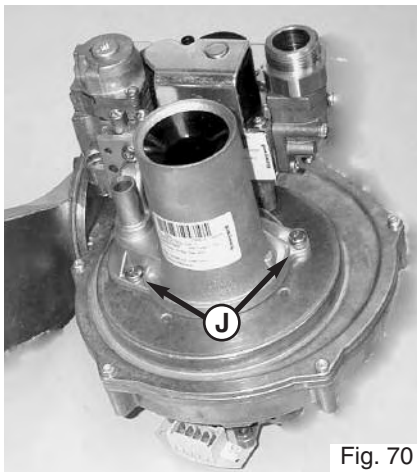

Fig. 70
3. Unscrew the two screws on the venturi J and remove with the gas valve (Fig. 70);